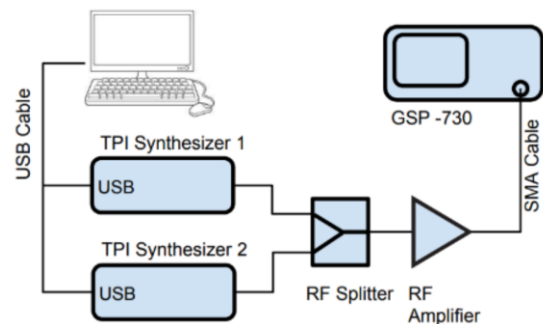

Fig. 3. Amplifier IP3 measurement setup.
1. For the IP3 measurement, we need two input signals with a slight frequency offset. Set up the measurement as illustrated by Fig. 3.